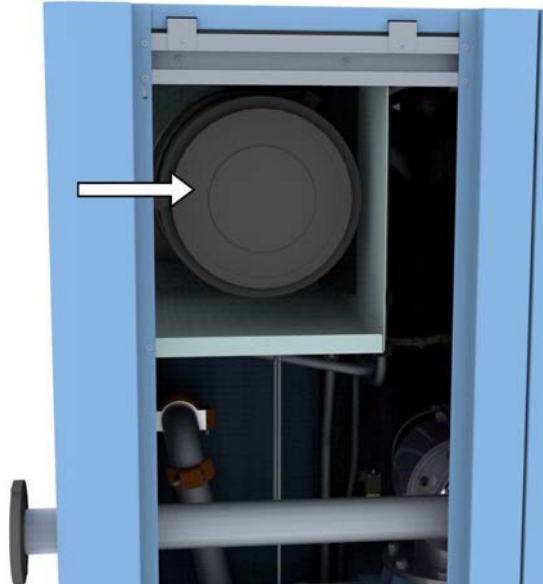

Fig. 6.5: Position of the suction filter
2. Undo the clamps on the side of the filter housing (see arrow, figure 6.5).